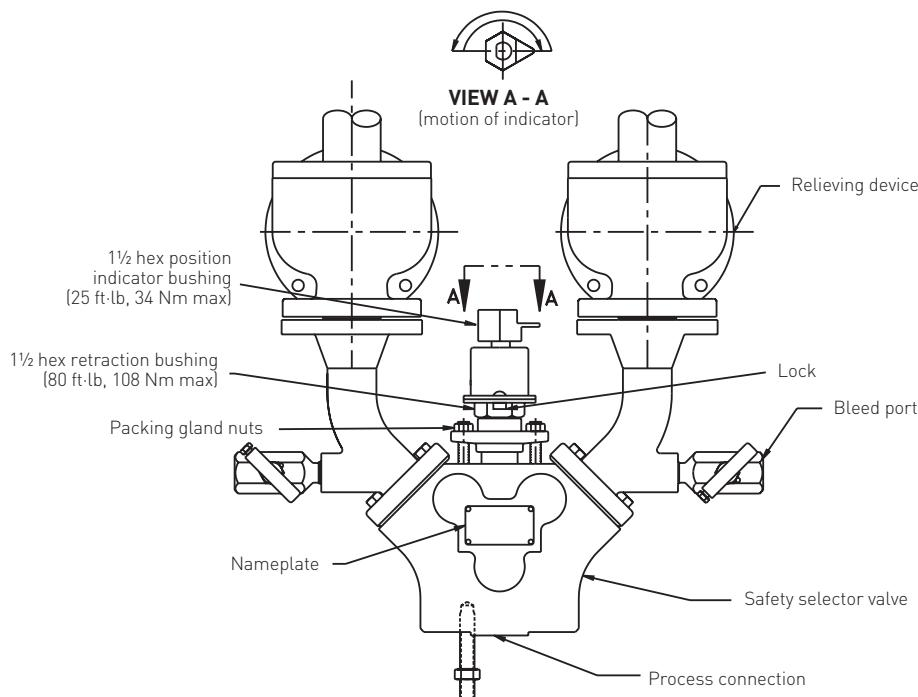

FIGURE 1
Refer to Figures 1 and 2 and follow these steps:
4. Rotate 1½" hex red position indicator bushing 180° to stop. Maximum torque should not exceed 25 ft·lb. Refer to view "A-A" of Figures 1 and 2.